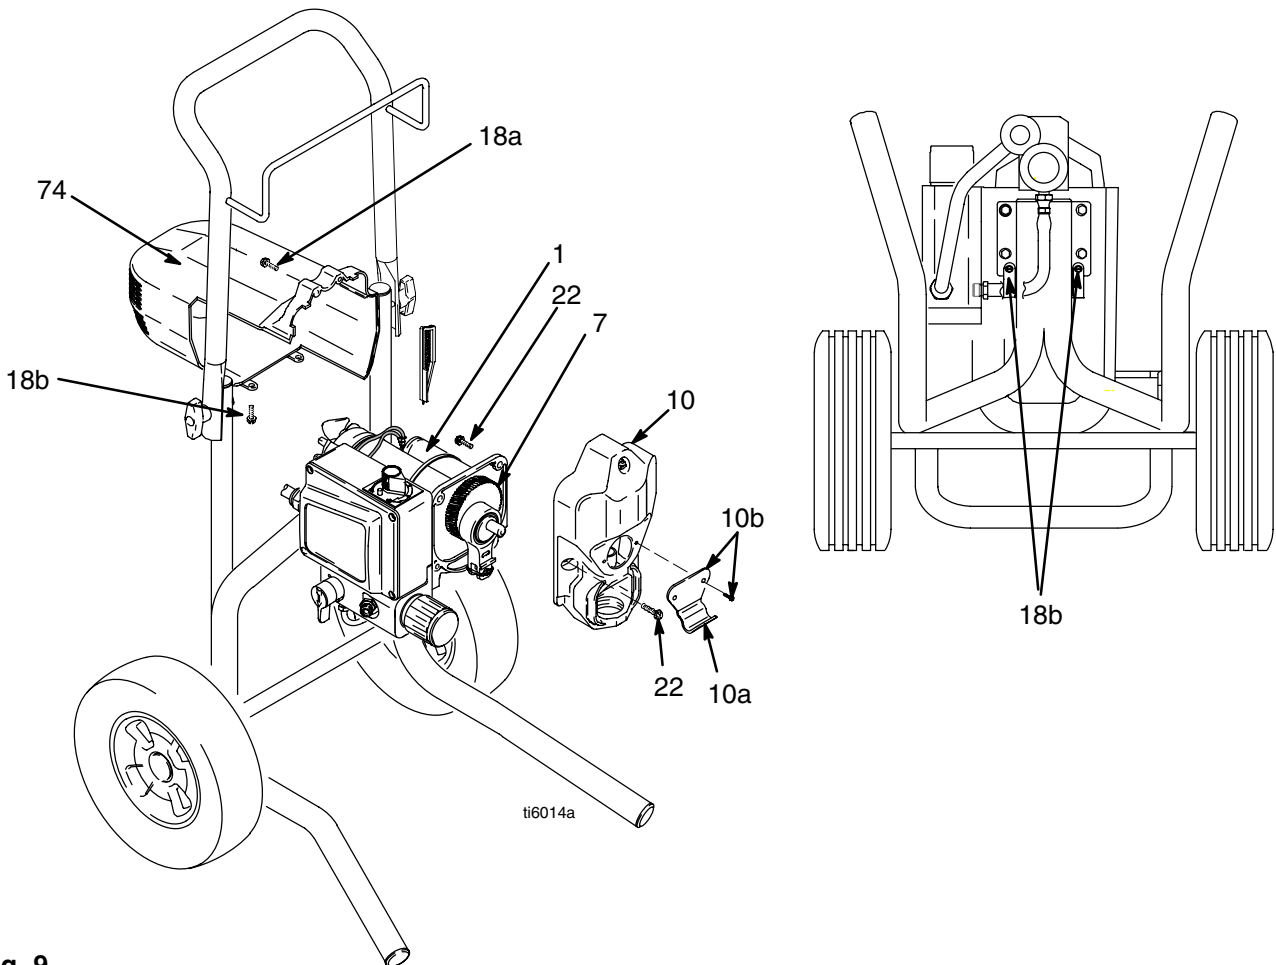

Fig. 9
2. Remove pump (13), Displacement Pump Replacement, page 25.
3. Fig. 9. Remove two screws (18a). Tip sprayer up. Remove two screws (18b) and remove shroud (74).
4. Remove two front screws (22).
5. Remove two back screws (22).
6. Pull drive housing (10) off of motor (1).
1. Push drive housing (10) onto motor (1)
2. Install two front screws (22).
3. Install two back screws (22).
4. Fig. 9. Install shroud (74) with two screw (18a). Tip sprayer up. Install two screws (18b).
5. Install pump (13) Displacement Pump Replacement, page 25.